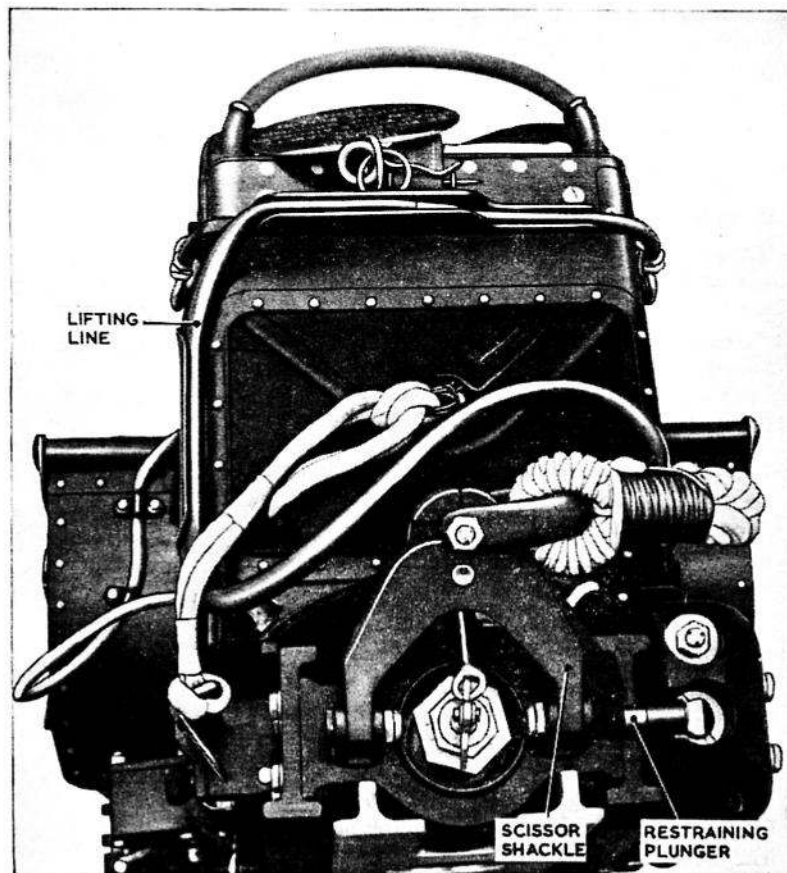

Fig. 17. Fitting the lifting lines
24. Commencing at the front of the drogue container, press the lifting lines down into their clips, using thumb pressure until the final result is similar to that shown in fig. 17.
25. (1) Ensure that the time-release mechanism operates in 3 sec.  $\pm \frac{1}{4}$  sec. If the timing is incorrect, the unit should be renewed.